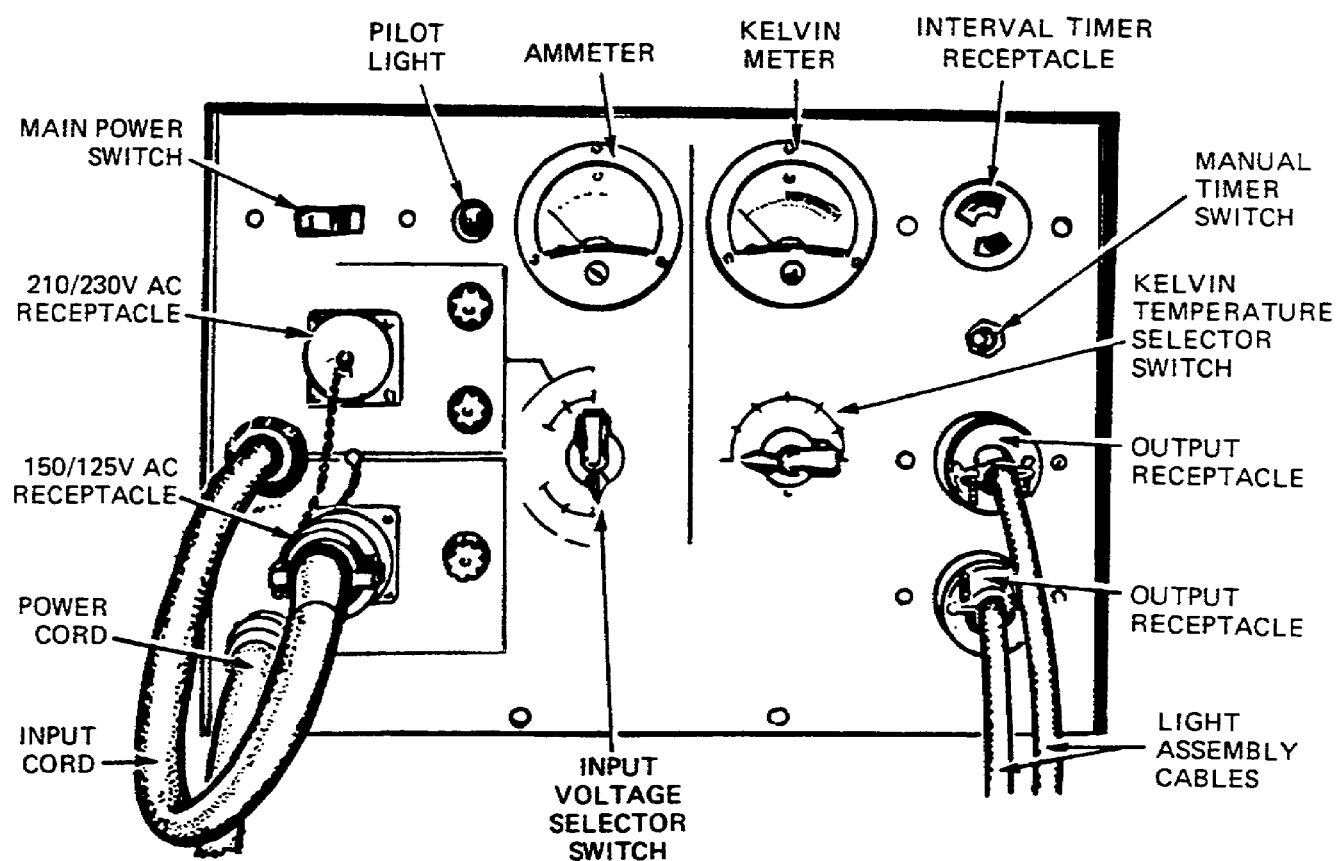

Figure 1-52. Converter Controls.
c. Converter Controls, Indicators and Connectors (fig 1-52).
a. Converter. Prepare the converter for operation as follows (fig 1-52):
- (1) Check to be sure that the main power switch is set to OFF.
- (2) Check to be sure that the power cord is connected to the power source and that input voltage-selector switch is set to the position that most likely matches the voltage of the power source.
- (3) Set the manual-timer switch to remote time operation.
- (4) Set the main power switch to ON; the pilot light will glow and the lamps in the light assemblies will glow dimly.
- (5) Set the kelvin temperature selector switch to 1.
- (6) Set the manual-timer switch to manual operation.
(7) Adjust the kelvin temperature selector switch to the position at which the Kelvin meter indicates the desired color temperature.